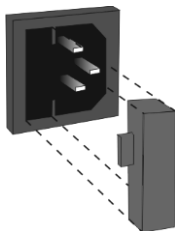

Figure 9. Fuse holder
9.3. **Fuse replacement.** Disconnect the power cable from the mains. Disconnect the power cable from the socket on the rear of the unit. Open the fuse holder, located near the socket (figure 9). Check and replace with a correct fuse, if necessary, see table below: